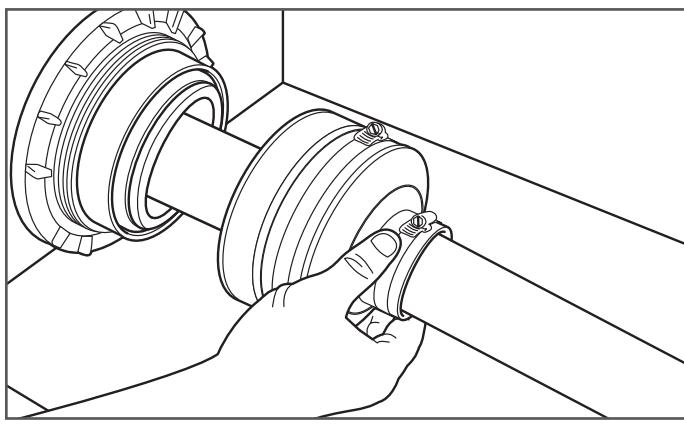
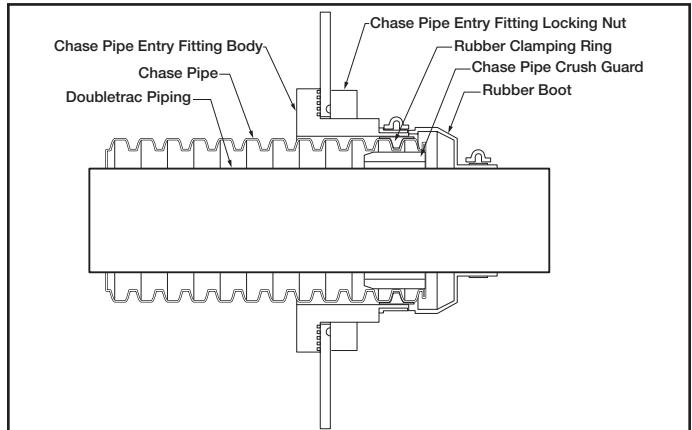

Figure 23-11
Figure 23-14
9. Ensure Rubber Clamping Ring is aligned under the Rubber Boot band clamp per Assembled Chase Pipe Cross Section View (Figure 23-14). Slide rubber boot over DoubleTrac® piping and ensure the rubber boot bottoms out onto the rubber edge of the entry fitting (Figure 23-11).
### Assembled Chase Pipe Cross Section View (Figure 23-14):